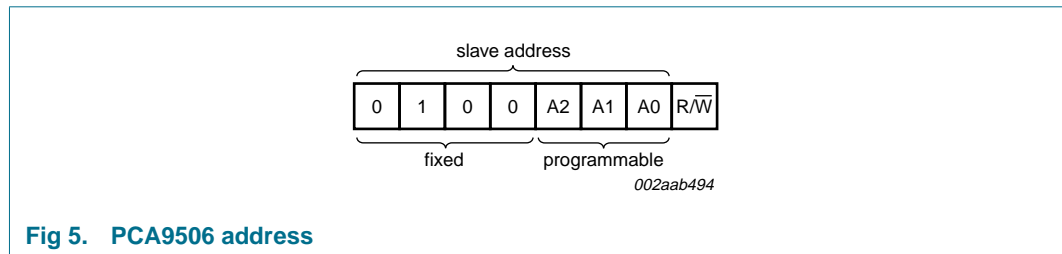

Fig 5. PCA9506 address
Following a START condition, the bus master must send the address of the slave it is accessing and the operation it wants to perform (read or write). The address of the PCA9506 is shown in Figure 5. Slave address pins A2, A1, and A0 choose 1 of 8 slave addresses and need to be connected to VDD (1) or VSS (0). To conserve power, no internal pull-up resistors are incorporated on A2, A1, and A0.